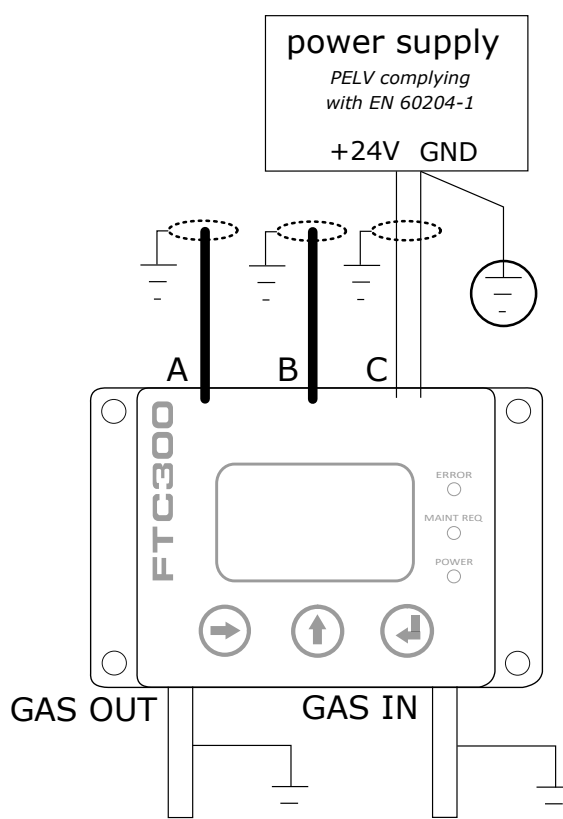

Figure 3.4: Grounding the FTC300
To comply with EN 60204-1 and to ensure your device's function, the device has to be installed such that the power supply (PELV) is connected to protective earth (PE) with its ground conductor, see Figure 3.4. The shielding of cables A, B and C should be connected to functional ground. Dependent on the circumstances, gas inlet and gas outlet can be grounded in addition. Connections to ground should be made with short low-resistant cables of large diameter.